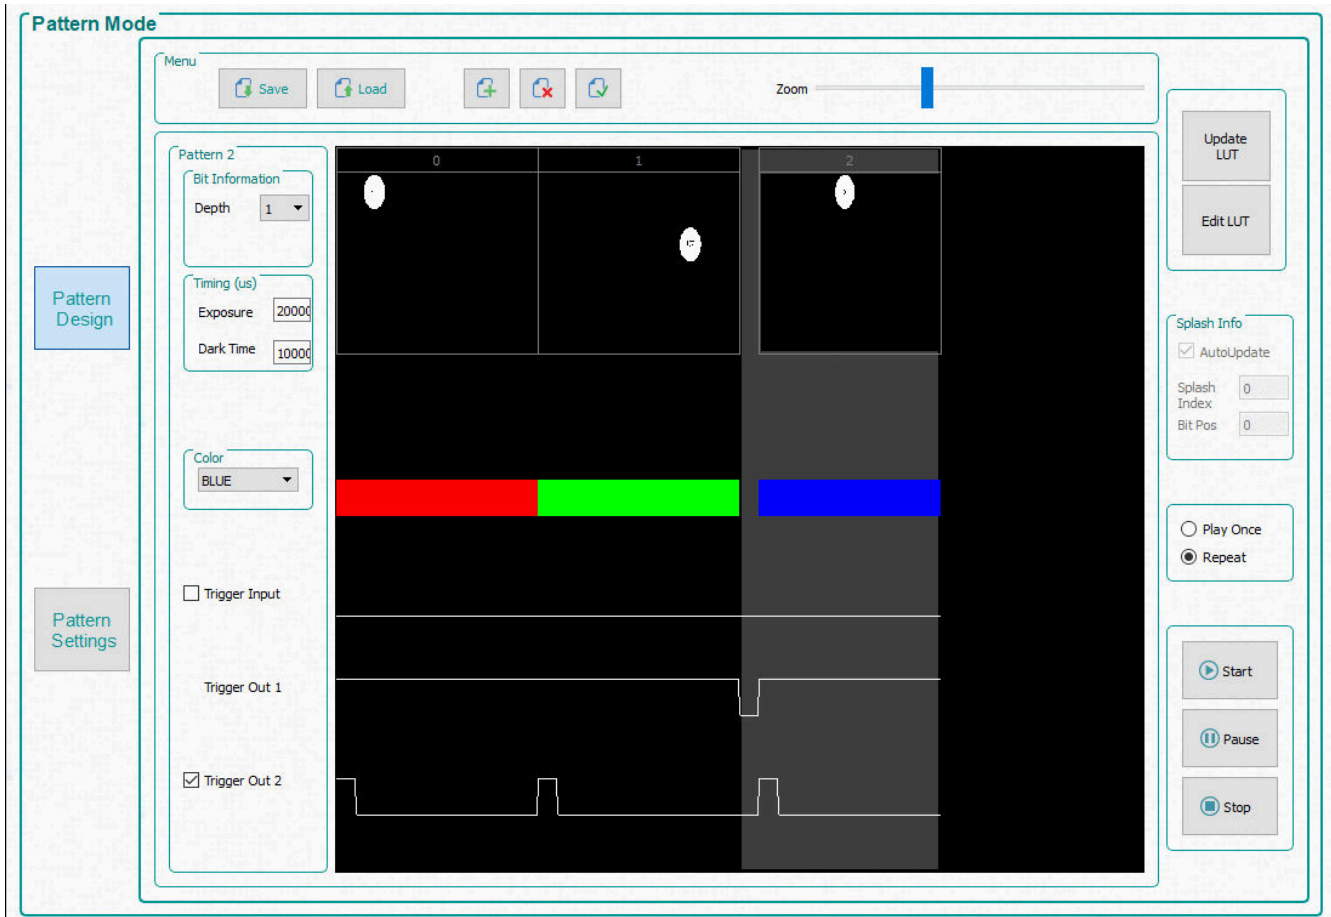

Figure 2-2. Simple Three Pattern Sequence
For the next three steps a selected pattern is indicated by a lighter gray selection area. See Figure 2-2 which shows the third pattern (pattern 2) selected.
5. Select the third pattern (pattern 2) and choose a bit depth of 1. Set exposure to 200000 μ s, dark time to 100000 μ s, and select **Blue** for the color. Figure 2-2 shows the pattern sequence.